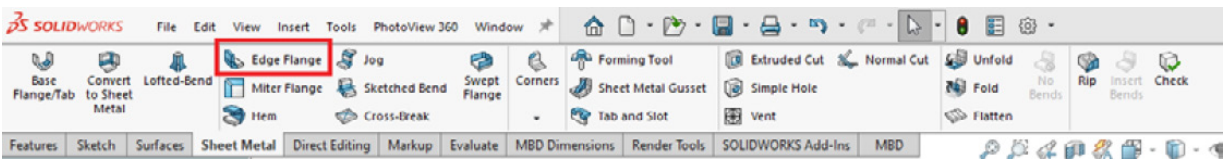

Figure 2.3: The Edge Flange tool
3. To start adding Edge Flanges, select the **Edge Flange** option from the Sheet Metal tools (*Figure 2.3*).